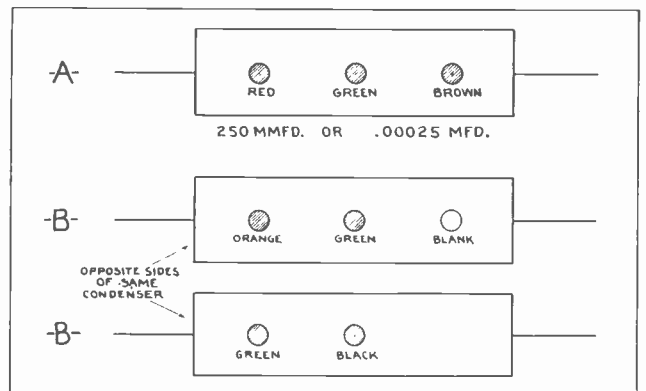

Fig. 153. Diagram showing condenser color code markings. Read the explanations in the lesson material.
Suppose a fixed mica capacitor has three dots on one side and two dots on the other, as shown in Figure 153-B. Trademark side dots are orange, meaning (3), green (5), and a blank dot; reverse side is green (5), black (none), answer 355 mmfd. or .000355 mfd.